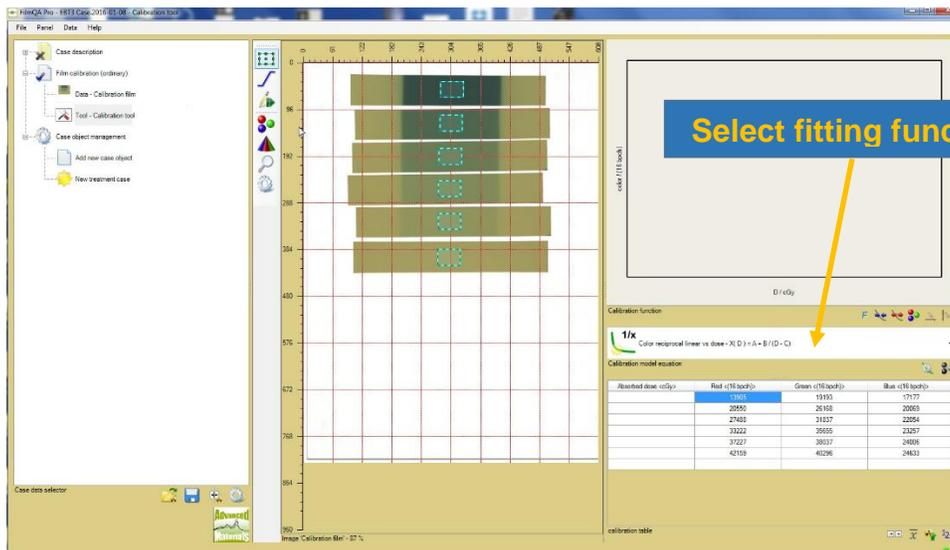

Figure V-7
Step 8: Click the “123” icon (bottom right corner in Figure V-7). Select the “Color reciprocal linear vs. dose” fitting function and type in the dose values into the first column of the calibration table.